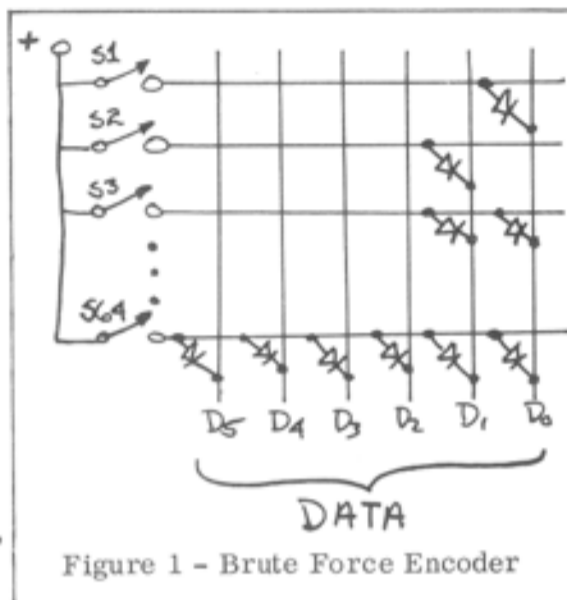

Figure 1 - Brute Force Encoder
There are lots of ways to do this, including the simple expedient shown in figure 1.
simultaneously, the diodes act like OR gates and the data that comes out may or may not (most probably not) represent those keys. If, for example, we were to press the first two keys down at the same time, data lines D_0 and D_1 would both go high. Exactly the same situation that we had defined in figure 1 as being an indication that key 3 was down: